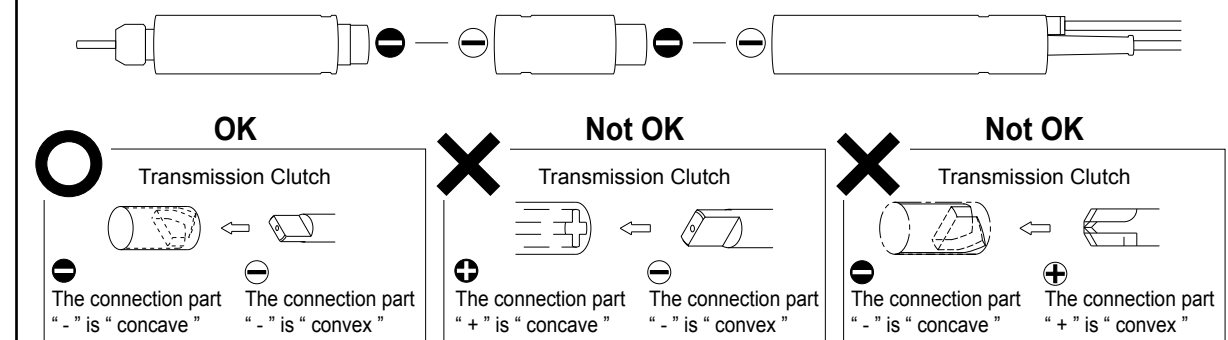

Fig. 7
- The new drive clutch is (-) configuration. The (-) drive spindles were designed to be used with (-) drive brushless motors and speed reducers (Fig. 7).